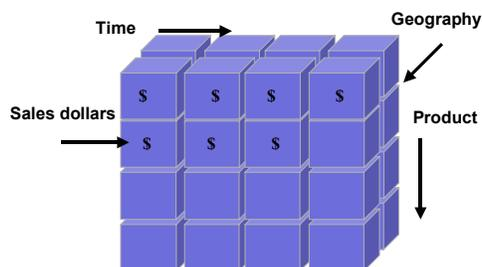

Figure 3: The OLAP multidimensional cube
The multidimensional cube can be visualized as in Figure 3. The factual data is within each cell of the cube. The contextual data runs along the edges. Multidimensional cubes are stored in Analytic Workspaces (AW). A particular AW may contain more than one cube.